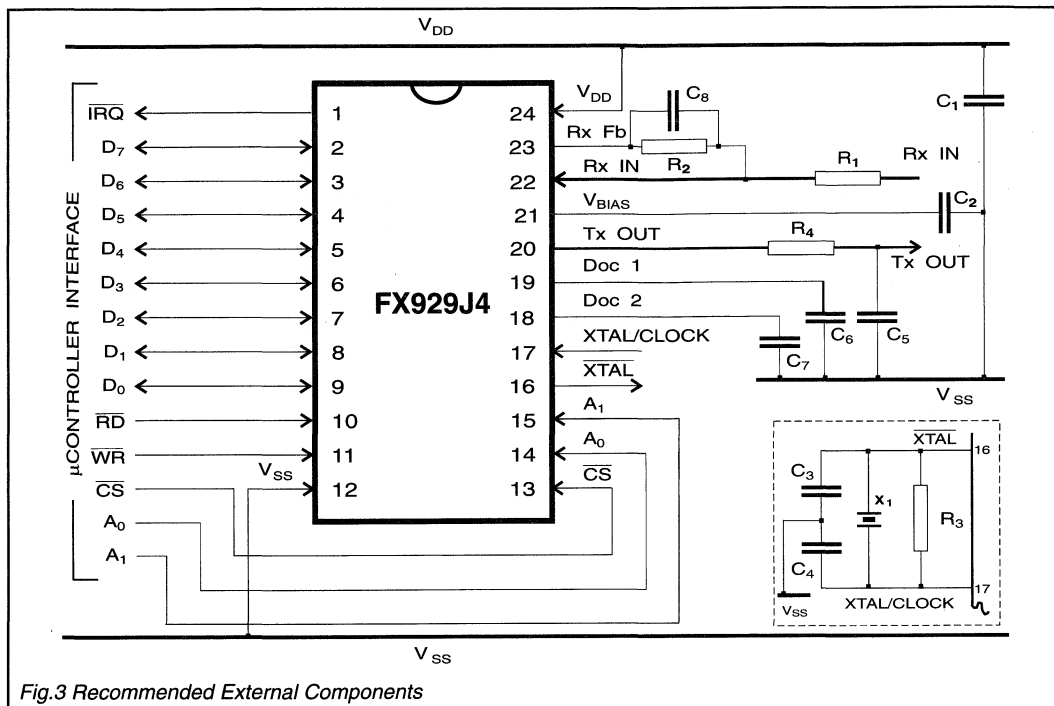

Fig.3 Recommended External Components
18	<p>Doc 2: Connections to the internal Rx signal level measurement circuitry. Capacitors as described in Figure 3 should be fitted from each of these pins to <math>V_{\text{SS}}</math>. Any test equipment connected to these pins should have an input resistance of at least <math>100\text{M}\Omega</math> to <math>V_{\text{SS}}</math> to avoid disturbance of the measured levels.</p>
3. .... If the on-chip Xtal oscillator is to be used, then the external components  $X_1$ ,  $C_3$ ,  $C_4$ , and  $R_3$  are required as shown in Figure 3 (inset).